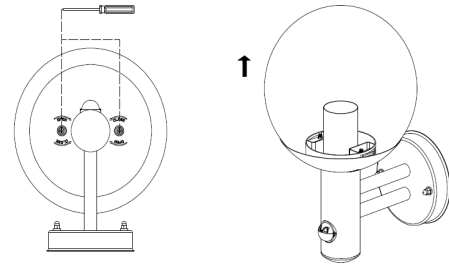

FIGURE 7
- (1) WARNING isolate the power supply or turn off the wall switch.
- (2) Turn the screws to the 'Open' position on the underside of the metal globe support. (FIGURE 7).